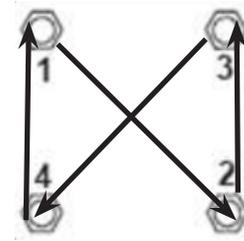

Figure 7- 4-Bolt Tightening Pattern
To torque bolts, tighten in the following increments using the tightening pattern in Figure 7: 50%, 75%, then Full Torque.
- After the blade pitch angles have been set on both blades within 0.3° of each other, torque mounting bolts following the pattern in Figure 7 and tighten each bolt 1/8 to 1/4 turn at a time. Check blade pitch at each torque interval. Then finish torquing clamping bolts.